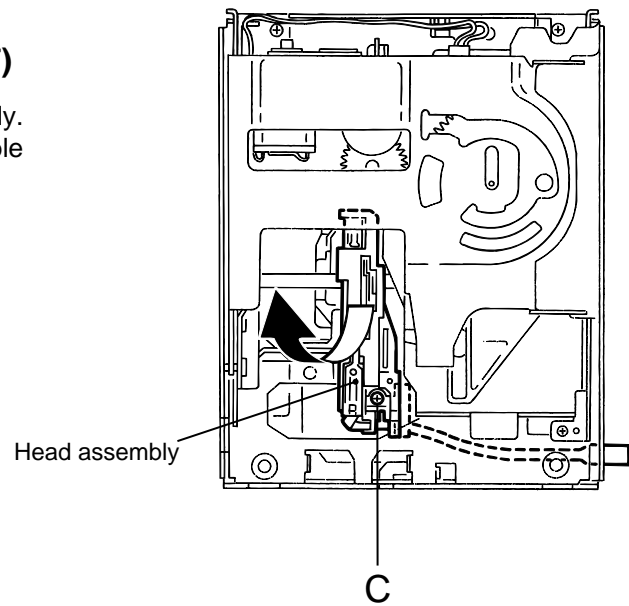

Fig.7
■ **Removing the head assembly (See Fig.7)**